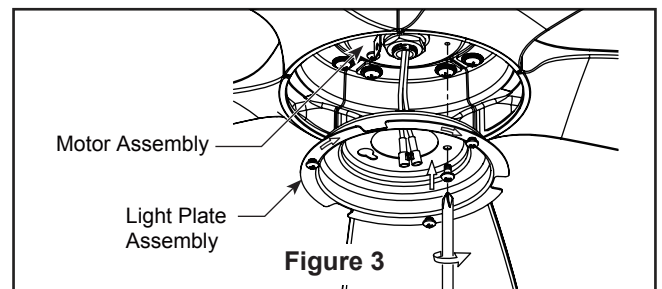

Figure 3
3. Assemble the light plate assembly to the support bracket using the two key slots in the light plate assembly. Replace the previously removed screw and securely tighten all three screws. (Figure 3)
3. Remove the battery cover from remote control by screwdriver and retain the screw for later. (Figure 3)